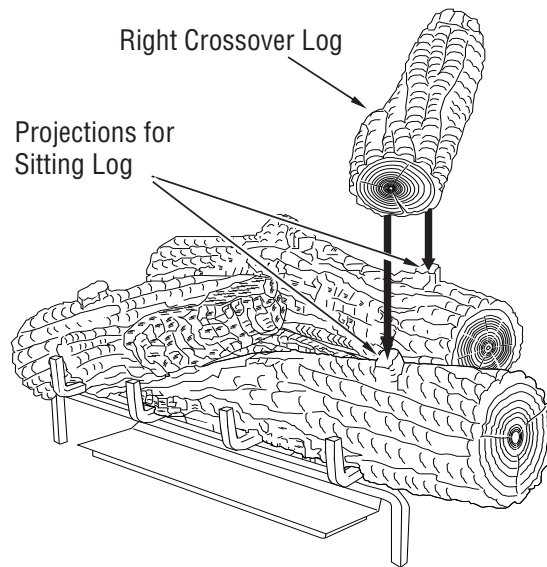

Figure 53 - Installing Right Crossover Log
5. Place the right crossover log onto the rear log and the right front log as shown in **Figure 53**. The right crossover log has notches in the bottom that will line up with the projections on the rear log and the right front log.